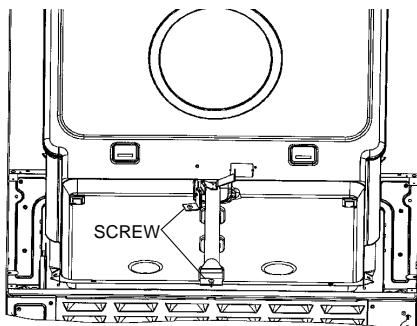

FIGURE 3
- b. Remove screw from the bake burner (figure 3).